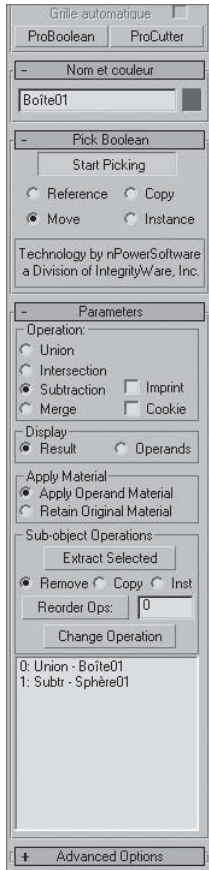

Fig.2.94
- 3 Dans la section **Operation**, activez **Subtraction** (fig.2.94).